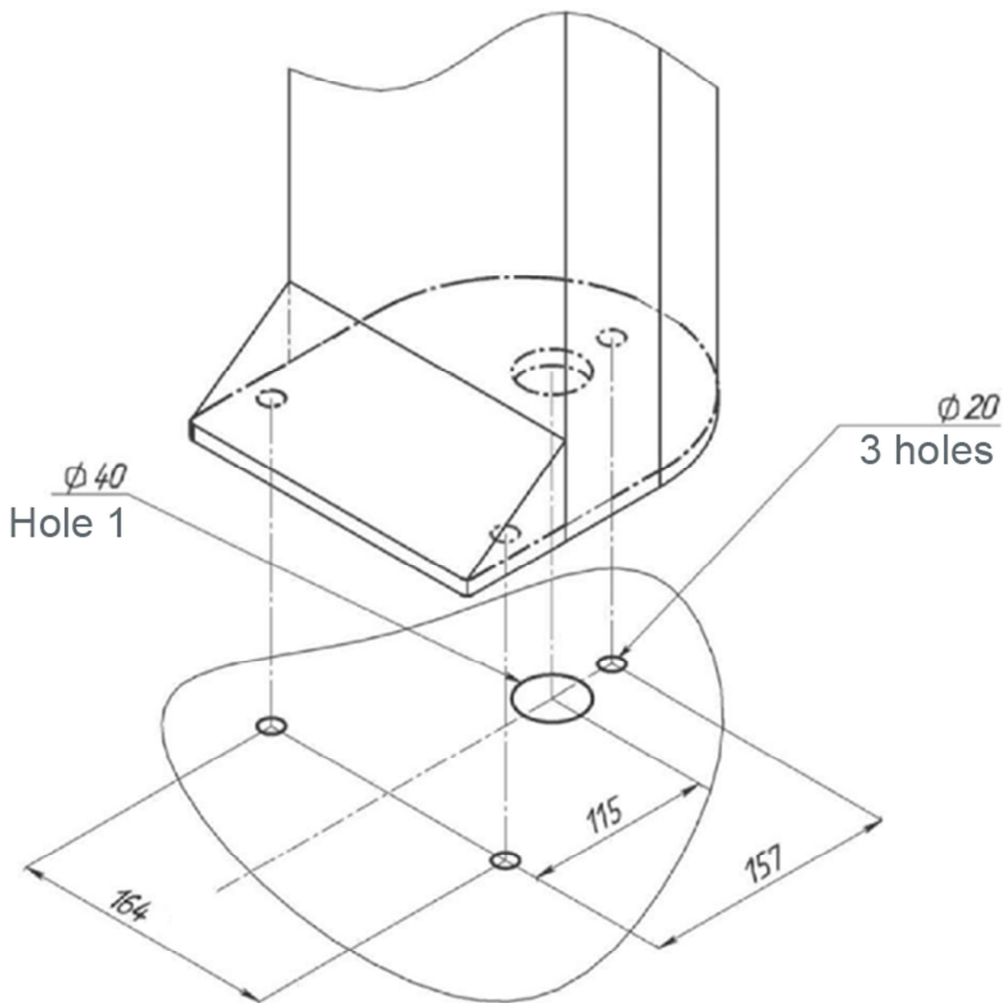
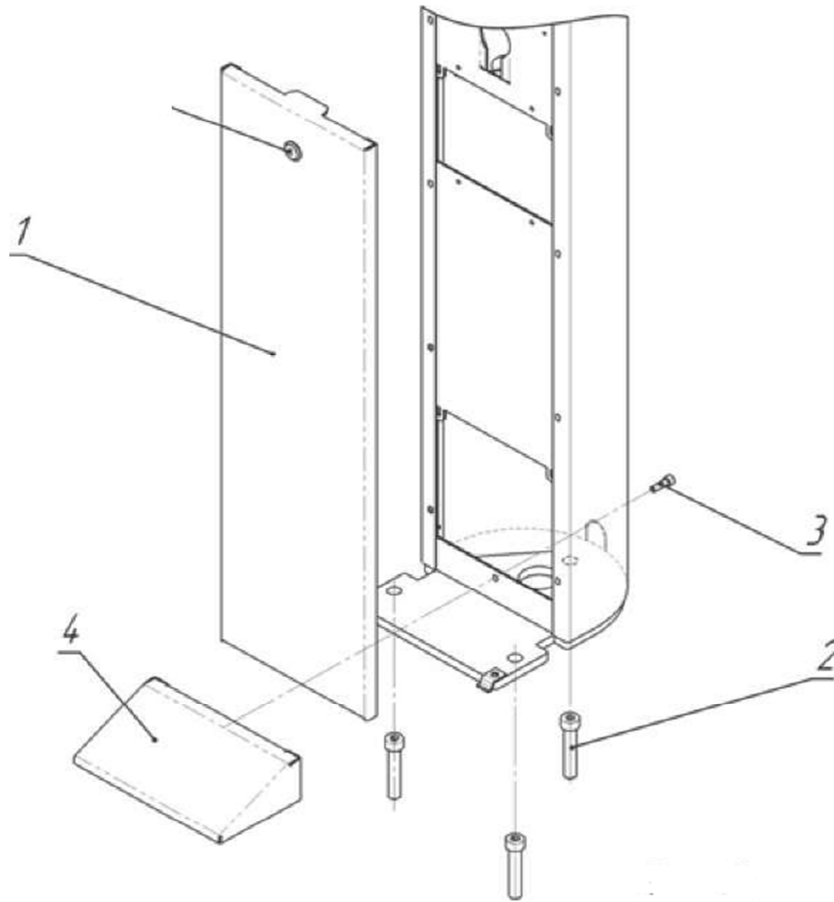
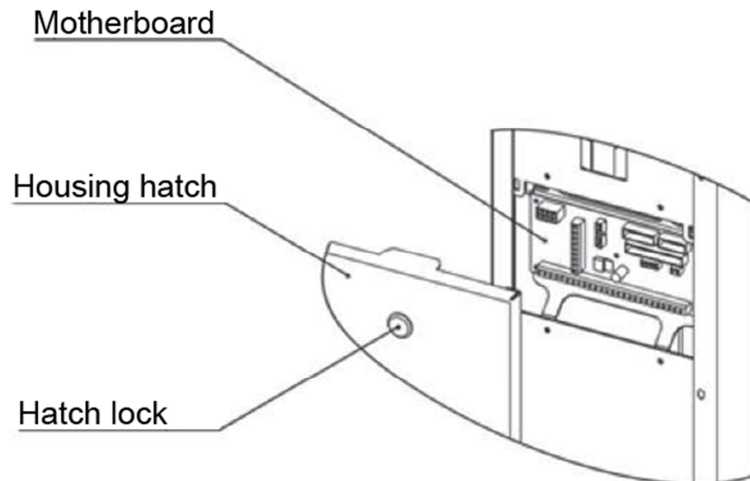
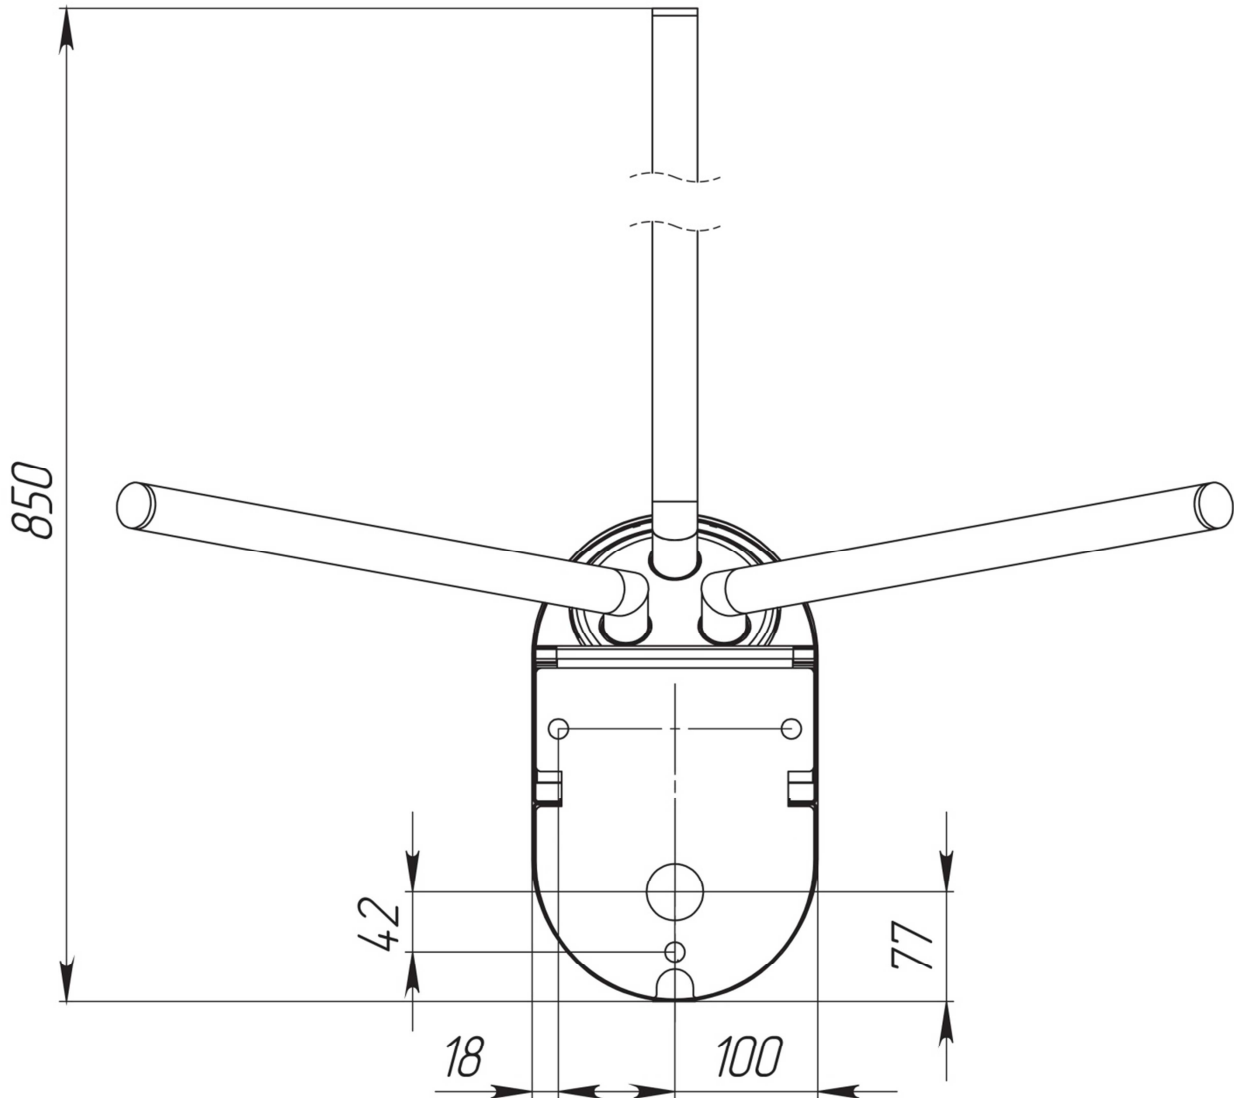

Fig. 4. Installation dimensions
Fig. 5. Installation diagram of turnstile
Fig. 6 Location of motherboard
Fig. 11 Location of mounting holes in relation to overall dimensions of the turnstile
4.2.3. Follow the layout (Fig. 4) prepare and drill 3 holes of 20mm diameter in the floor for anchors. Location of mounting holes according to the outer dimensions of the turnstile is shown in Appendix 3 (Fig. 11). Depth of the hole should exceed the length of the anchor for more than 5mm. Put anchors in the holes.
4.2.4. Cable routing is carried out through a hole 1 (Fig. 4) in the lower plate of turnstile. Cable conduit shall be prepared.
4.2.7. Set the turnstile on the prepared site (Fig. 4). Open the lock and remove the hatch (1, Fig. 5). Route cables of RC, PS and if necessary, ASC and FA into the housing. Cable routing shall be performed via hole 1 in lower plate of the turnstile. Secure cables with cable ties.
4.2.8. Align holes in the lower plate of the turnstile together with anchors in the floor. Check the vertical installation in 2 planes. If necessary, use appropriate steel underlayers for proper installation of the turnstile. Fix the housing of the turnstile with 3 screws M12 (2, Fig. 5), tightening them to the corresponding anchors by using a S10 wrench with internal hexagon. Set the base cover (4, Fig. 5) and secure it with the screw M6 included in the delivery set (3, Fig. 5). Install the hatch (1, Fig. 5) at its original position and close the lock.
Connection of RC, PS and ACS is performed with the use of motherboard. In order to do it, open turnstile hatch (1, Fig. 5) with a key. Fig. 6 shows the location of motherboard in the housing.